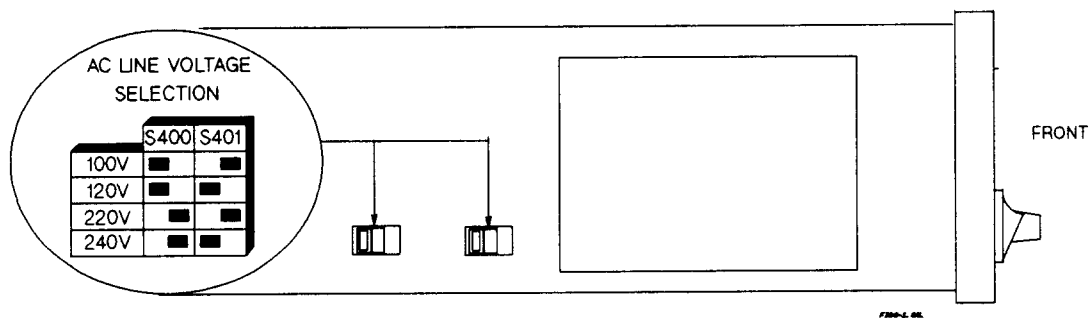

Figure C-1. Series 664xA Line Select Switches
4. Slide the dustcover back far enough to expose the select switches (see Figure C-1) or the line select jumpers (see Figure C-2).